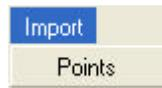
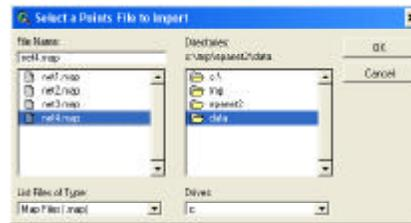

Figure 23
Figure 24
- Select the {Import} [Points] command as shown in Figure 23. Upon activation of the command the file selection dialog box of Figure 24 will appear.